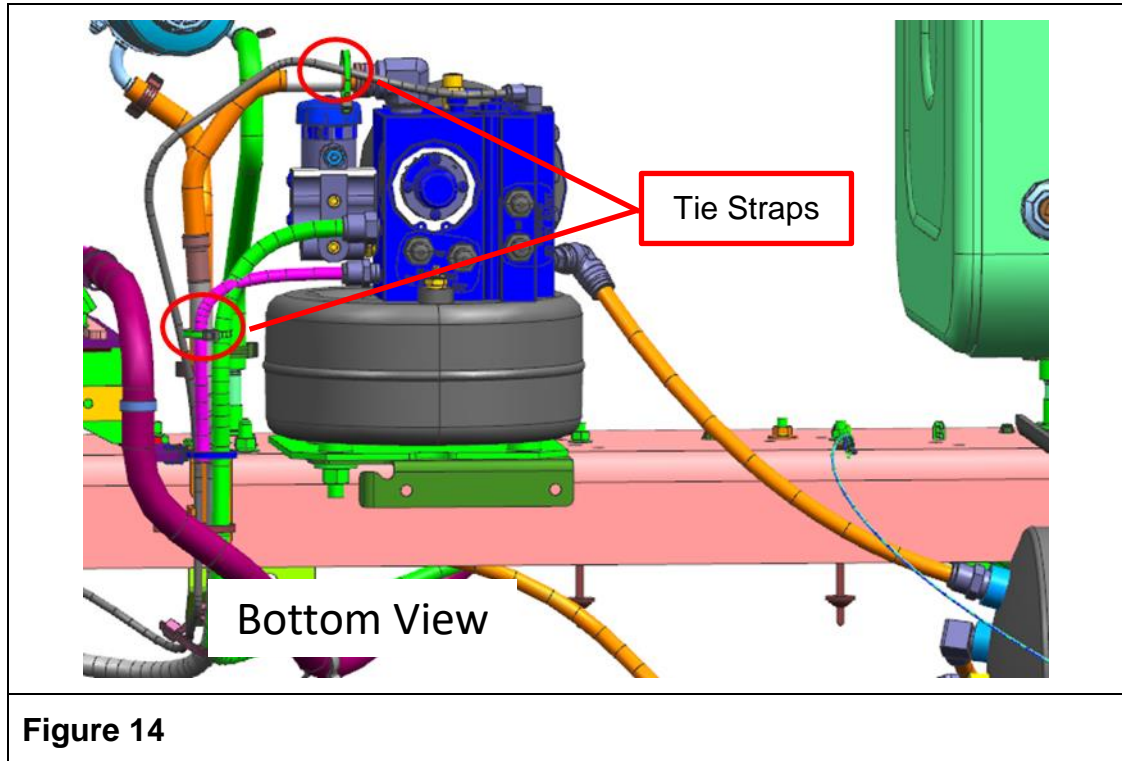

Figure 14
15. Install tie straps in locations shown in Figure 14.